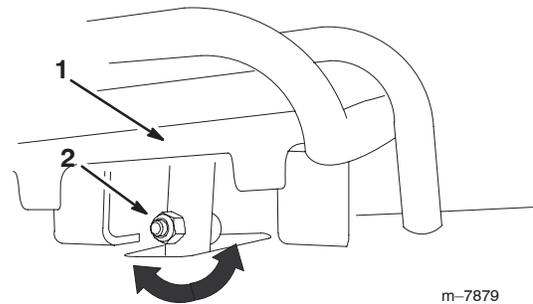

Figure 23
4. If the front of the traction control does not rest square and flush with the reference bar, loosen the flange nut and bolt in the stem of the traction control (Fig. 23).
5. Adjust the traction control so that it rest flush against the reference bar when it is pulled straight back (Fig. 23 and 24).